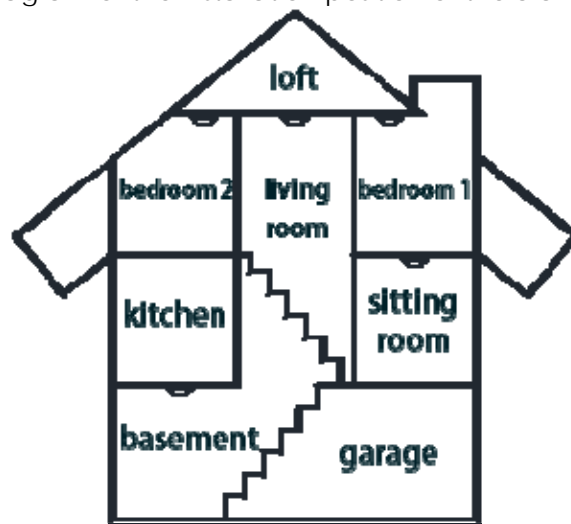

Fig. 5 Alarm installation position diagram
- 1.6 Please refer to Figure 5 for the installation position of the alarm, please determine the best installation position according to the actual situation.